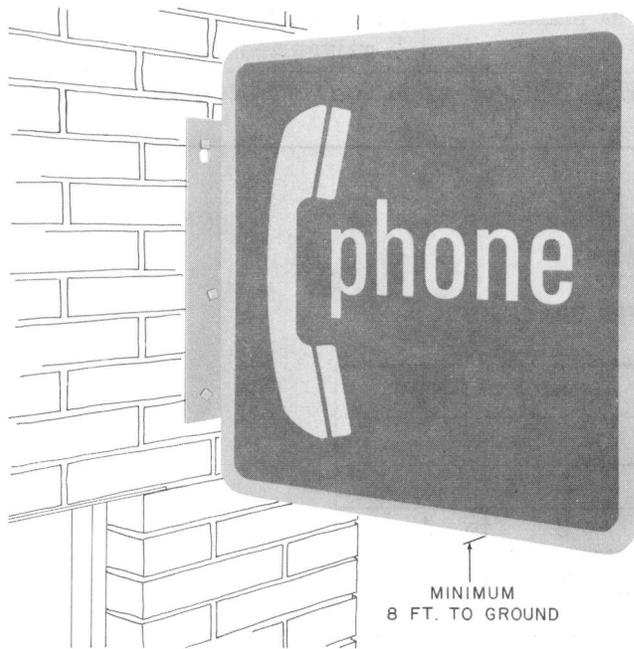

Fig. 18—KS-20063 Sign-Wall Mounted
- (a) A flat surface (Fig. 18)